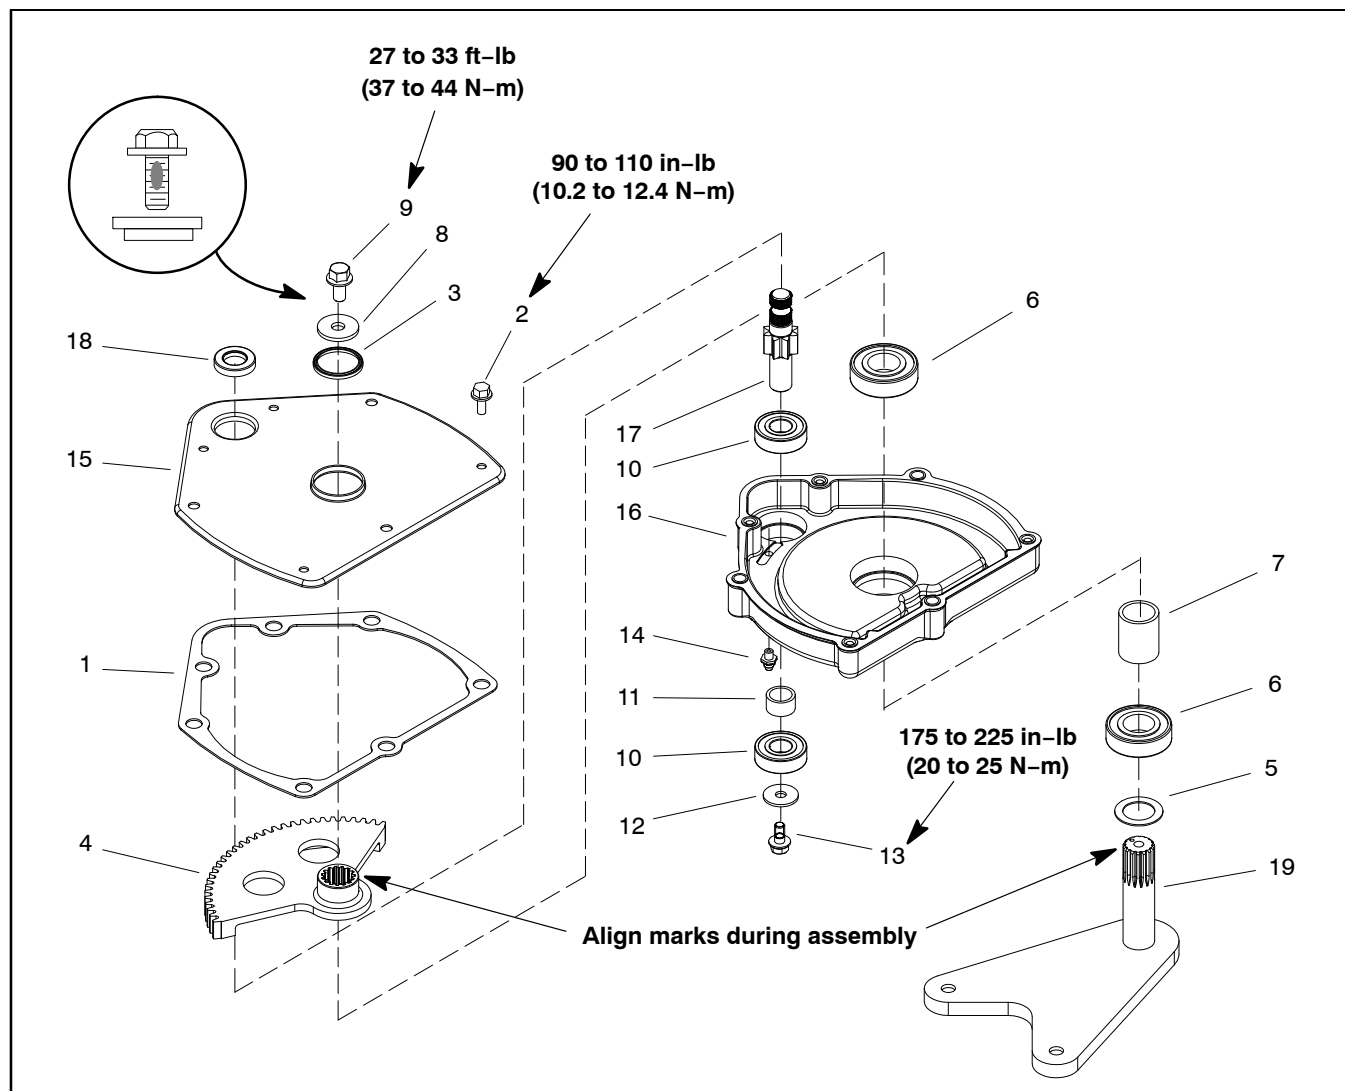

Figure 10
Disassembly (Fig. 10)
Assembly (Fig. 10)
8. Secure stepped washer and flange head screw with patch lock (item 9) to the Pitman arm (item 8). Make sure to position stepped washer as shown in Figure 10. Torque screw from **27 to 33 ft-lb (37 to 44 N-m)**.
9. Secure flat washer (item 12) and flange head screw with patch lock (item 13) to the pinion gear shaft. Torque screw from **175 to 225 in-lb (20 to 25 N-m)**.